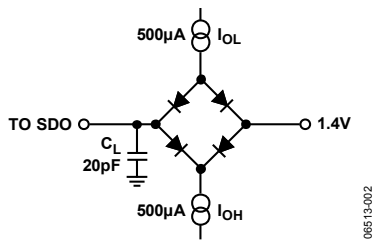
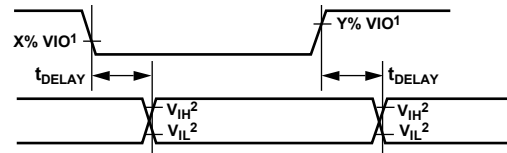

Figure 2. Load Circuit for Digital Interface Timing
Figure 3. Voltage Levels for Timing
–40°C to +125°C, VDD = 2.37 V to 2.63 V, VIO = 3.3 V to 5.5 V, unless otherwise stated. See Figure 2 and Figure 3 for load conditions.
-40°C to +125°C, VDD = 2.37 V to 2.63 V, VIO = 1.71 V to 3.3 V, unless otherwise stated. See Figure 2 and Figure 3 for load conditions.